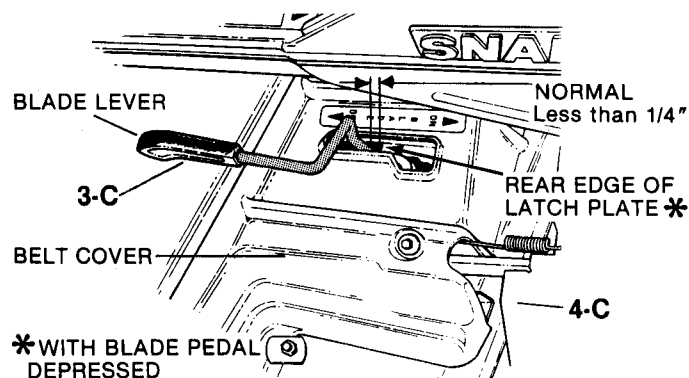

FIG. 10 - BLADE LEVER TRAVEL
STEP 4: Release the BLADE pedals to allow the BLADE lever to move to the OFF position, then depress the BLADE pedals again and check the clearance between forward edge of the BLADE lever and the rear edge of the latch plate which should be less than 1/4" (FIG. 10). Repeat the procedure in step 2 if needed to obtain correct clearance. When correct, hold the BLADE lever rearward and turn the jam-nut tight against the T-nut to lock in new position. Reinstall BELT COVER.